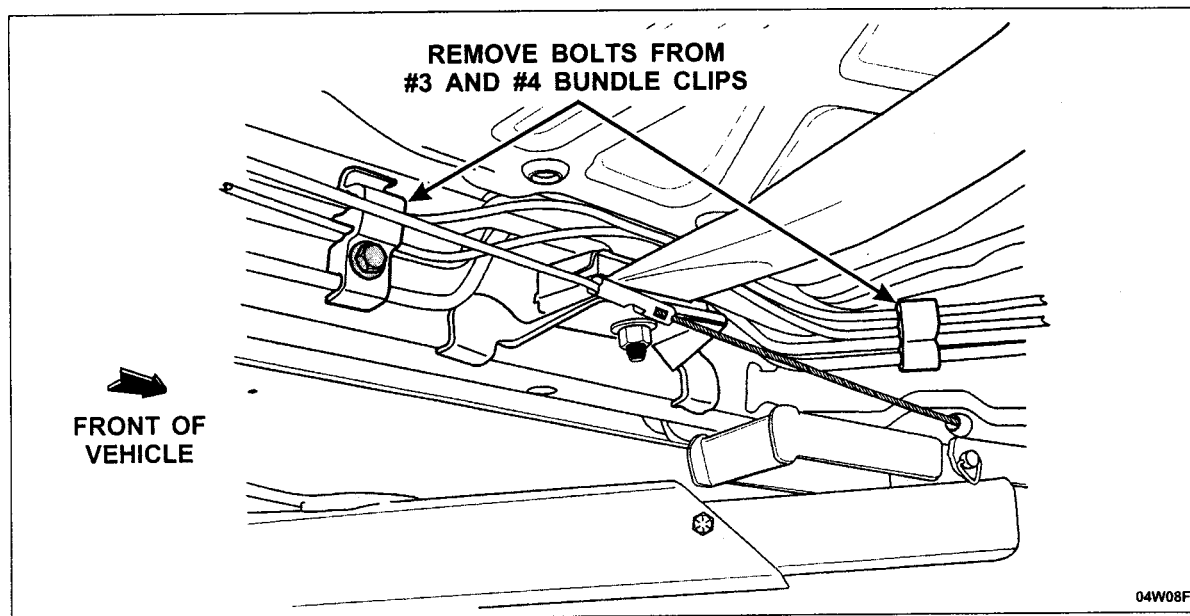

FIGURE 6
2. Remove the bolts for the #3 and #4 bundle clips. See Figure 6.